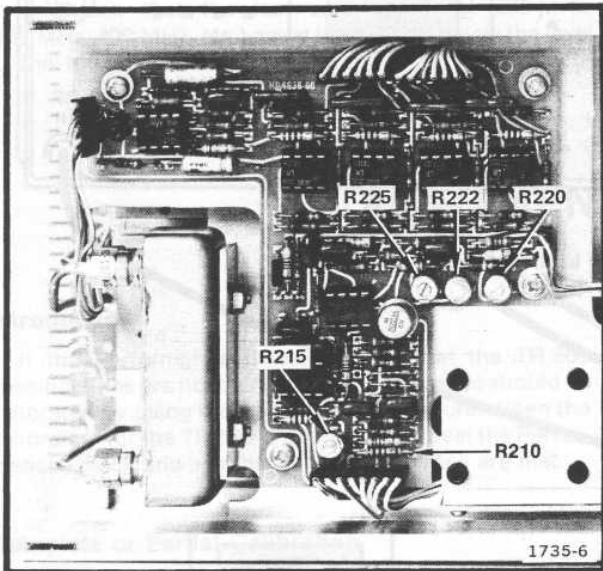

Fig. 4-4. Location of adjustment R215 and adjustments R225, R220 and R222.
b. Adjust the Signal Level Normalization with R215 for a 1.5 V drop across R210. Refer to Fig. 4-4.
c. Set the TR 503 OUTPUT LEVEL control to 0 dBm and set the VAR dB to -2. Use R225 to adjust the Min Output Level to a measured -2 dBm output. Refer to Fig. 4-4 for the locations of R225, R220, and R222.